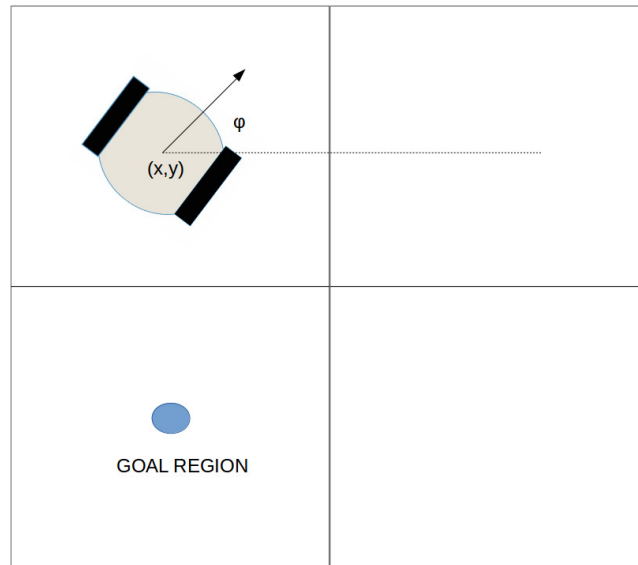

Figure 5: The mobile Robot and the goal region for a potential transition.
**Task 4 (1p).** *Explain how this choice is related to the “safe” property that during one transition, the robot must always remain in the two regions of the transition (the one it starts from and the one it wants to go to). Would it be better to simultaneously control both the relative orientation and distance of the robot to the goal region? Motivate your answer. (Look at Figure 5).*